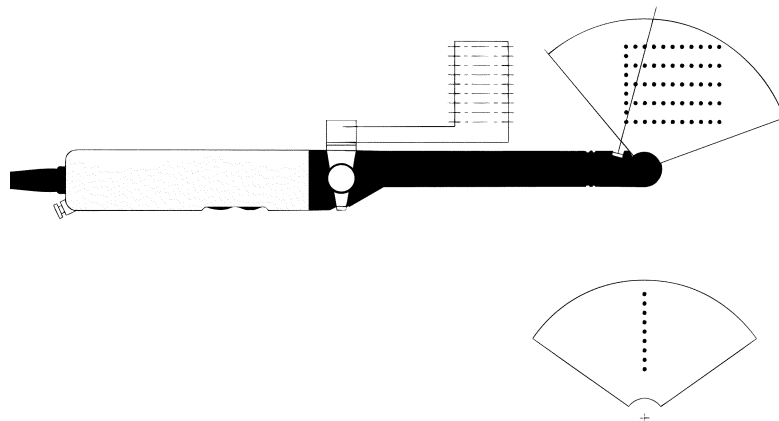

Figure 11. Illustration of the puncture lines for puncture attachment UA1232.
The puncture lines for UA1232 are shown in Figure 11.
**Caution:** Always use the longitudinal plane image to check that the needle has advanced to the correct position. If you use the transverse plane, remember that the image plane's distance from the needle guide increases by 2.6mm for every 10mm distance from the transducer (see Figure 11). You must take this into account when using the transverse plane to determine the outline or structure of an organ.